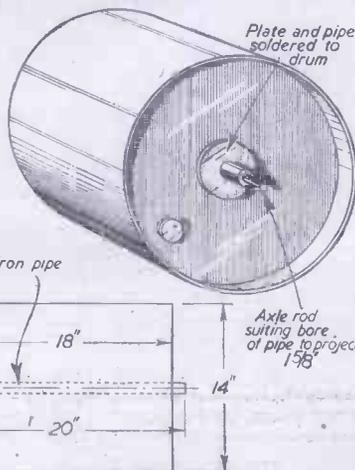

Fig. 2.—Approximate dimensions of oil drum, showing how metal pipe is affixed through the centre of the roller.
Allow an assistant to maintain the book in this position while you paste down the end papers (A) Fig. 2 to the cover and with a little paste running between the joint of the sections to the cover. Finally, fix the Index between the folds of the front end papers (C) as indicated in Fig. 3.
brass or iron plate, drilled to take the hollow bearing rod, is soldered in place, as indicated in Fig. 2.